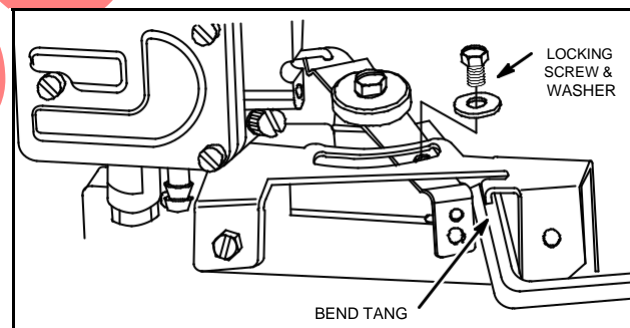

Fig. 39 – Adjust Top-No-Load
7. Tighten lock screw and washer, Fig. 39.